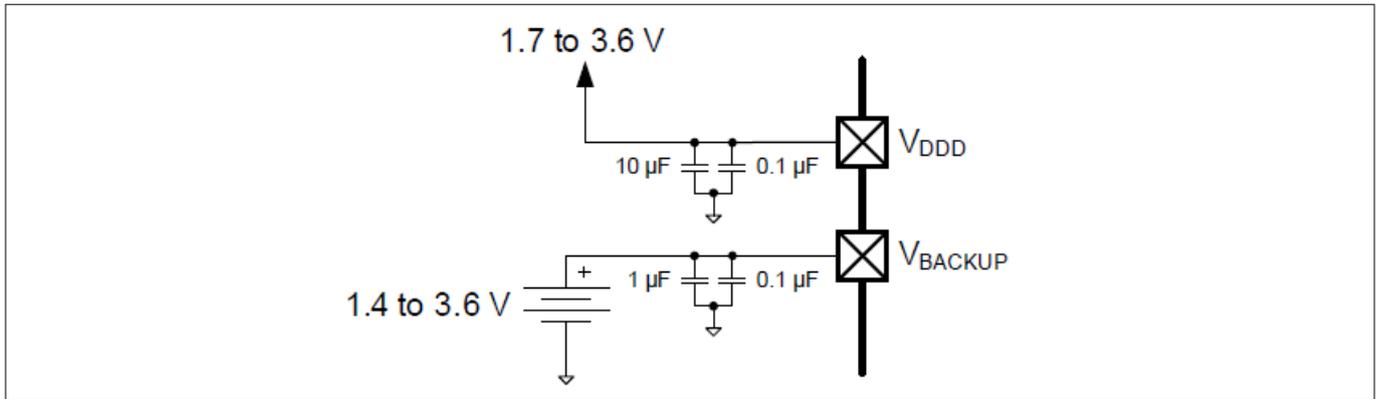

Figure 19 Separate battery connection to V_{BACKUP}
- V_{BACKUP} : the supply for the backup domain, which includes the 32-kHz WCO and the RTC. It can be a separate supply as low as 1.4 V, for battery or supercapacitor backup, as Figure 19 shows, otherwise it is connected to V_{DD} . It powers I/O port 0